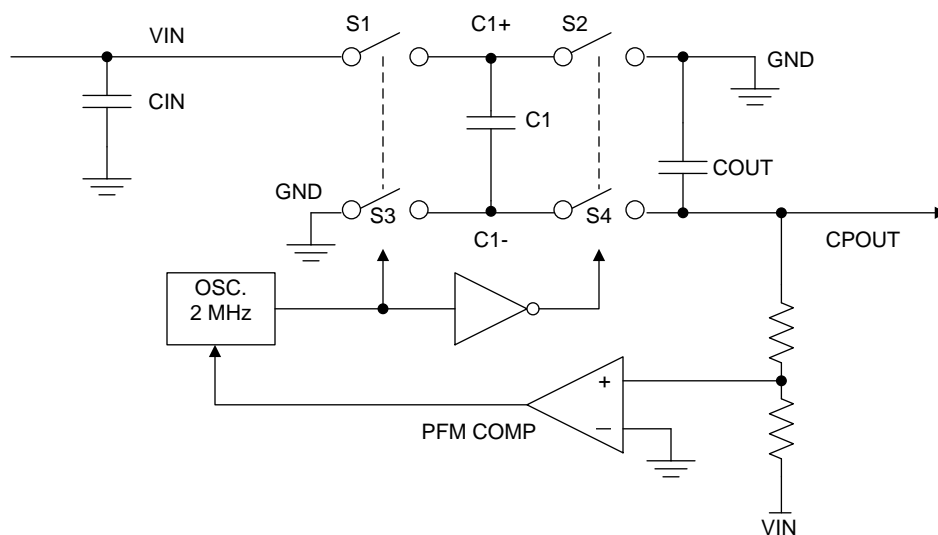

Figure 17. Voltage Inverting Principle
The voltage inverter portion of the LM27761 contains four large CMOS switches which are switched in sequence to invert the input supply voltage. Energy transfer and storage are provided by external capacitors. Figure 17 shows the voltage switches S2 and S4 are open. In the second time interval, S1 and S3 are open; at the same time, S2 and S4 are closed, and C1 is charging C3. After a number of cycles, the voltage across C3 is pumped into V_{IN} . Because the anode of C3 is connected to ground, the output at the cathode of C3 equals $-(V_{IN})$ when there is no load current. When a load is added the output voltage drop is determined by the parasitic resistance ($R_{DS(on)}$ of the MOSFET switches and the equivalent series resistance (ESR) of the capacitors) and the charge transfer loss between the capacitors.
- R_{SW} is the sum of the ON resistance of the internal MOSFET switches shown in Figure 17. (1)